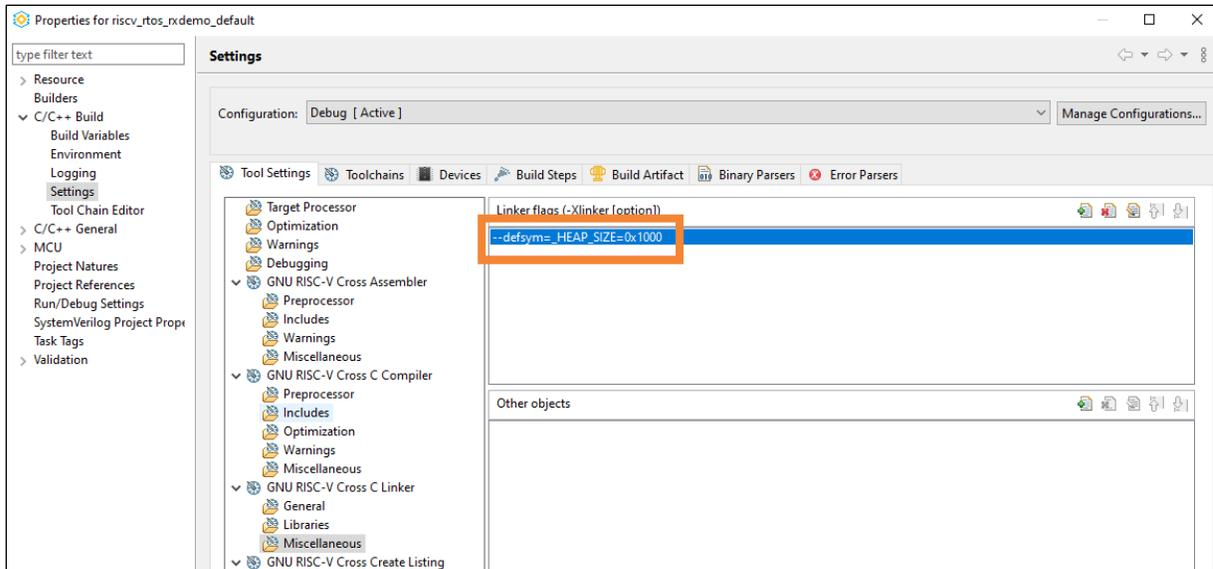

Figure 5.11. Linker Flags
6. Select **GNU RISC-V Cross C Linker > Miscellaneous**. Add the linker flag, `--defsym=_HEAP_SIZE=0x1000` (Figure 5.11).